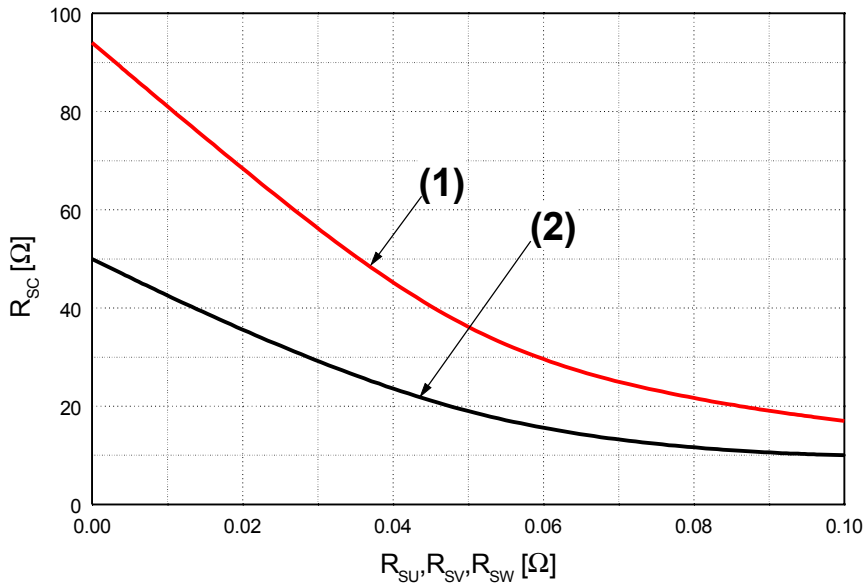

Fig. 7. R_{SC} Variation by change of Shunt Resistors (R_{SU}, R_{SV}, R_{SW}) for Short-Circuit Protection
- Short-circuit current protection is functioning only at the low-sides. It would be recommended that the value of the external sensing resistor (R_{SC}) should be selected around 50 Ω in order to make the SC trip-level of about 22.5A at the shunt resistors (R_{SU}, R_{SV}, R_{SW}) of 0Ω. For the detailed information about the relationship between the external sensing resistor (R_{SC}) and the shunt resistors (R_{SU}, R_{SV}, R_{SW}), please see Fig. 7.